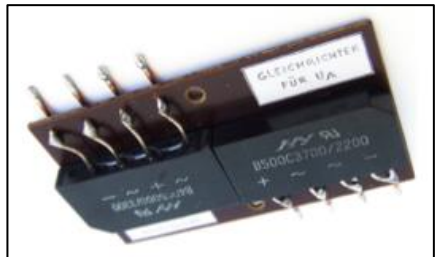

Figure 4
- < The rectifiers (G1 and G2) for the secondary voltage and the filament voltage of the power transformer, see figure 4